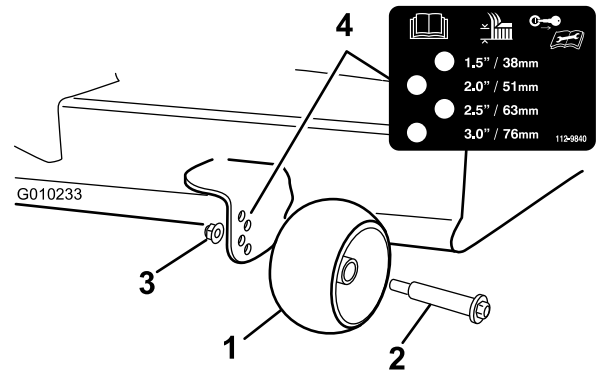

Figure 26
3. Adjust the anti-scalp rollers as shown in Figure 26 to match the closest height-of-cut position.